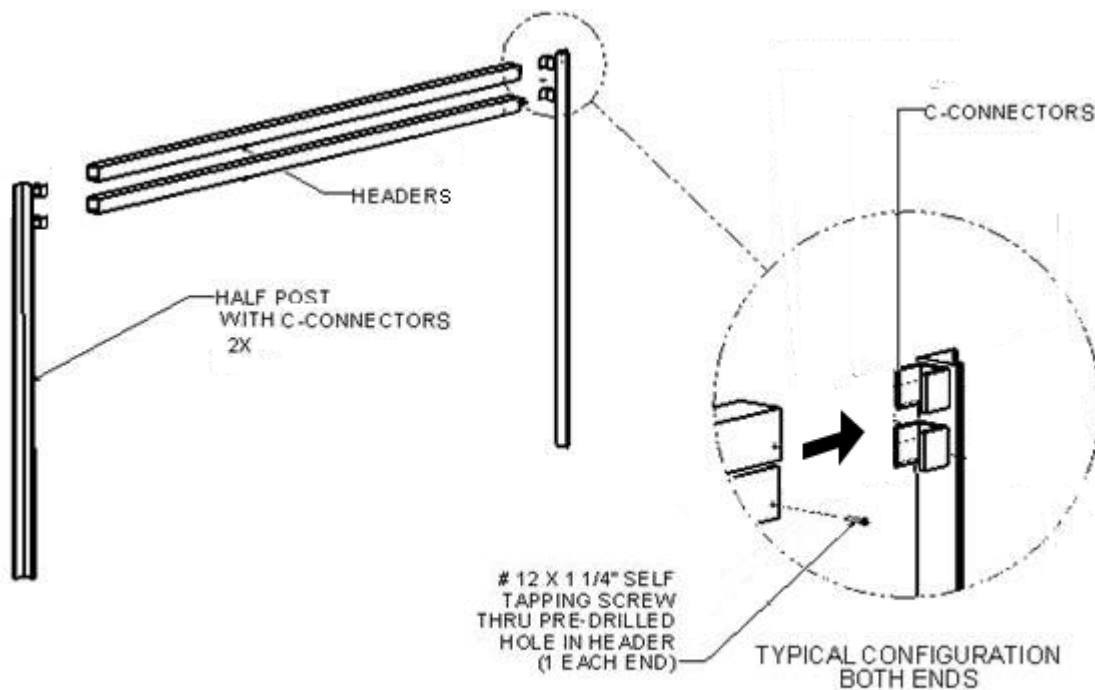

Figure 1
See Figure 1 for entrance/exit assembly. Attach double header (with pre drilled holes toward inside of shelter) to c-connector with (1) #12 x 1-1/4" self tapping screw (no washer) thru pre-drilled hole of header (both ends). Both screws tighten thru c-connector inside of header.